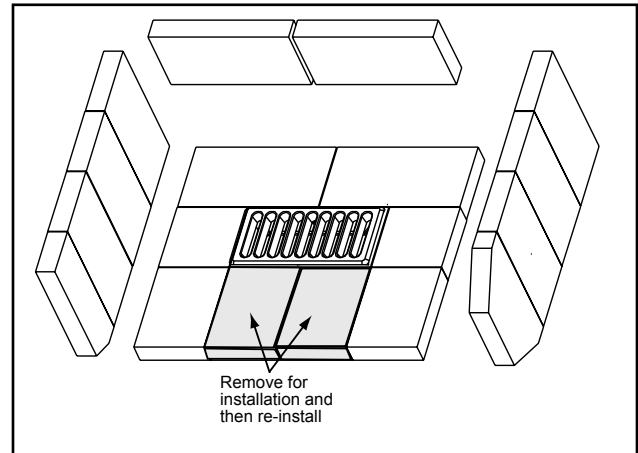

Figure 21.1
1. Remove 2 front bricks as shown in **Figure 21.1**.